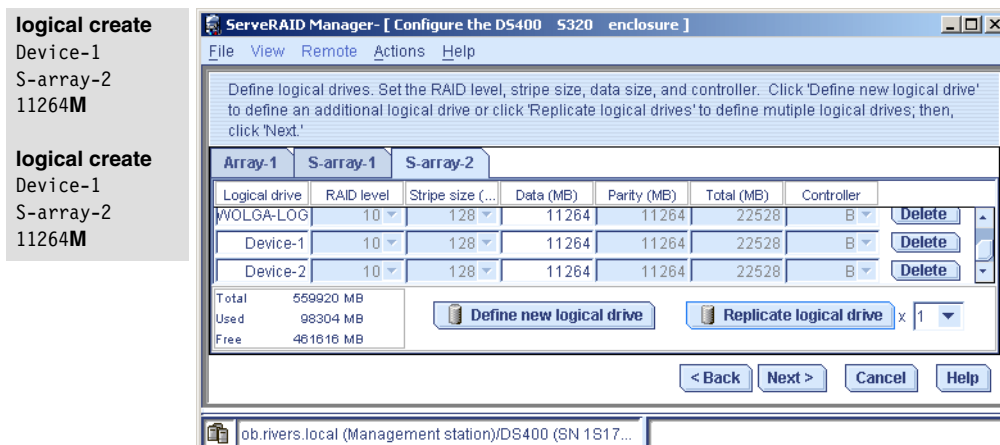

Figure 4-104 New replicated logical drives
20. The requested number of logical drives will be created with default name of Device-x. See Figure 4-104. Click **Next** after all required logical drives are defined.